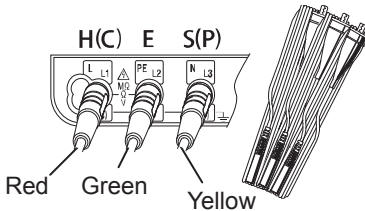

Fig.41
2. Insert the Test Leads (MODEL7228A) into the instrument. (Fig.41)